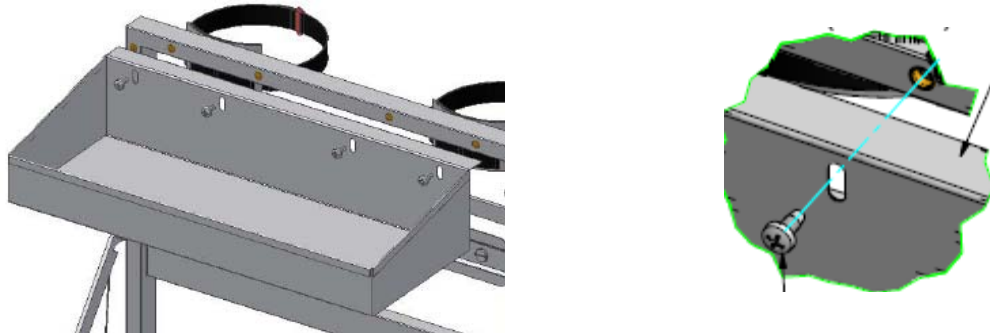
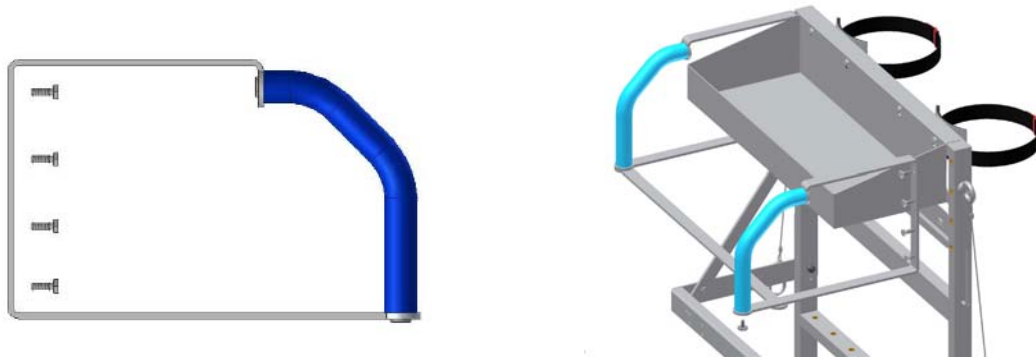

Figure 4 – Tray with four Philips screws
Figure 5 – Installation of handle bars
- The frame of the cart must be completed with the tray (see Figure 4) and handlebars (see Figure 5) after fixing the upright onto the trolley base.
- Locate and install the eight (8) M6X16 screws (LMW P/N 3049412) to secure handle bars to the upright. Use two (2) M5X16 screws for fixing the stabilization bar underneath the handle bars (See Figure 5).